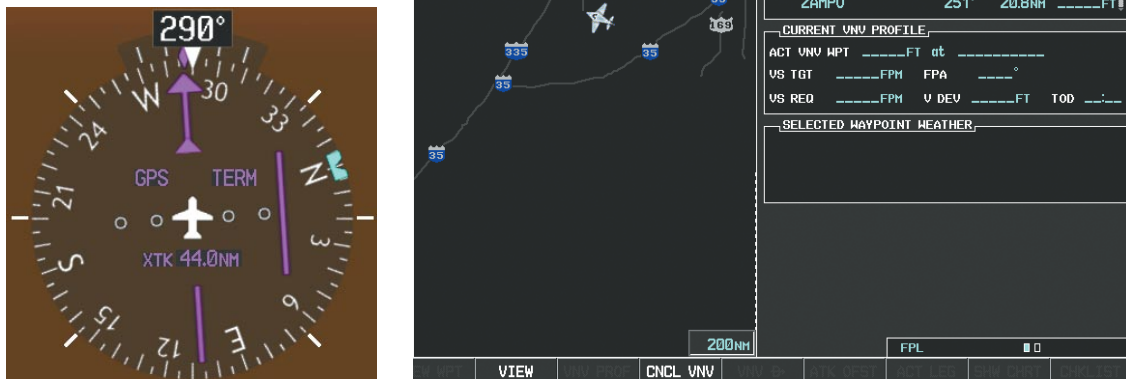

Figure 5-107 Assigned Heading of 290°
- 3) ATC now assigns routing to join V4. A heading of 290° is assigned to intercept V4. The aircraft turns to heading 290° as seen in Figure 5-107.